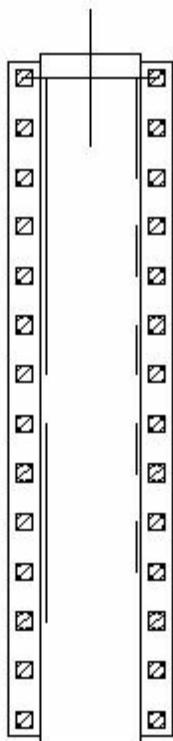

Figure-7. PLC full unit attached to the cursor
- Click on the desired category and select a plc of your requirement. The PLC will get attached to the cursor; refer to Figure-7.